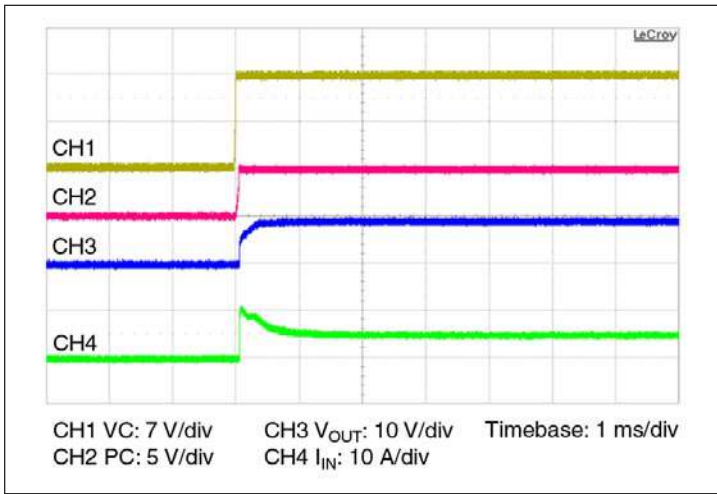

Figure 11 — Start up from application of VC;
- **Stand-alone operation (VC applied after V_{IN}):** In this case the VTM output will begin to rise upon the application of the VC voltage (See Figure 11). The Adaptive Soft Start Circuit (See Section 11) may vary the output rate of rise in order to limit the inrush current to its maximum level. When starting into high capacitance, or a short, the output current will be limited for a maximum of 1200 µsec. After this period, the Adaptive Soft Start Circuit will time out and the VTM module may shut down. No restart will be attempted until VC is re-applied or PC is toggled. The maximum output capacitance is limited to 1600 µF in this mode of operation to ensure a successful start.